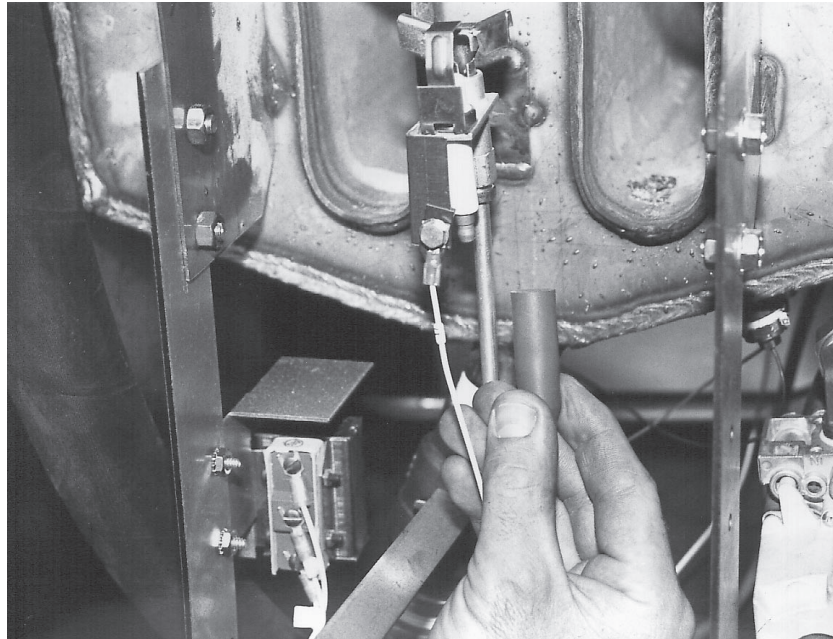

Fig. 37
2. Pull the igniter boot from the ignitor. (Fig. 37)